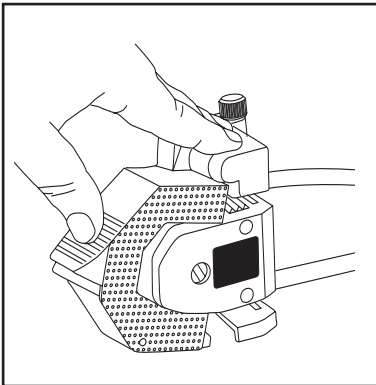

Figure 5-3. Closing the Stator
3. Refer to Figure 5-3. Push the stator closed until you hear the latch engage.
Extensive testing has shown that the minimum motor speed required to prime the tubing varies significantly with the size of the tubing. These variances are shown in Table 9-1 in Chapter 9. If the tubing will not prime regardless of motor speed, simply press on the stator (refer to Figure 5-3) while the stator is shut and the motor is running. Pressing on the stator enhances the priming action of the pump. Release the pressure after the tubing is primed.